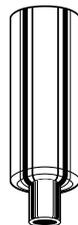

Figure 2
2. Moisten the O-ring inside the large end of the calibration chamber (Cat. No. 225-01-03, Figure 2) and push the chamber over the cyclone stem until it fits snugly.